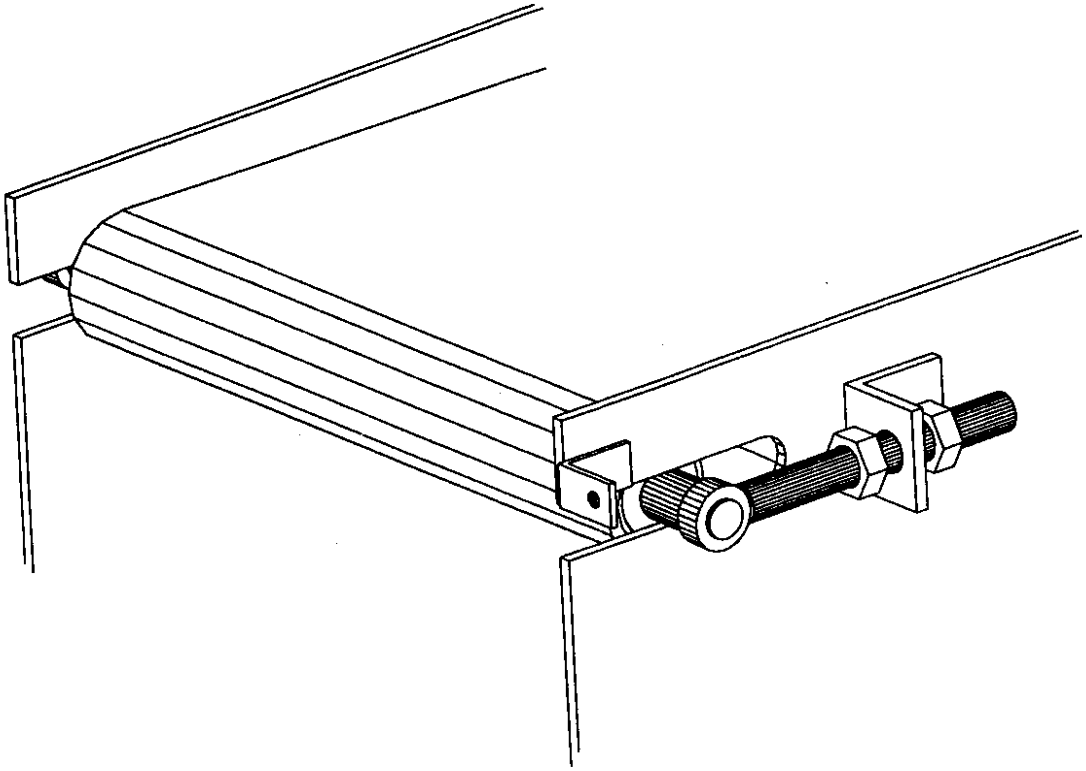

Figure 4
- Loosen jam nuts, each side of machine (see fig. 4, page 22).